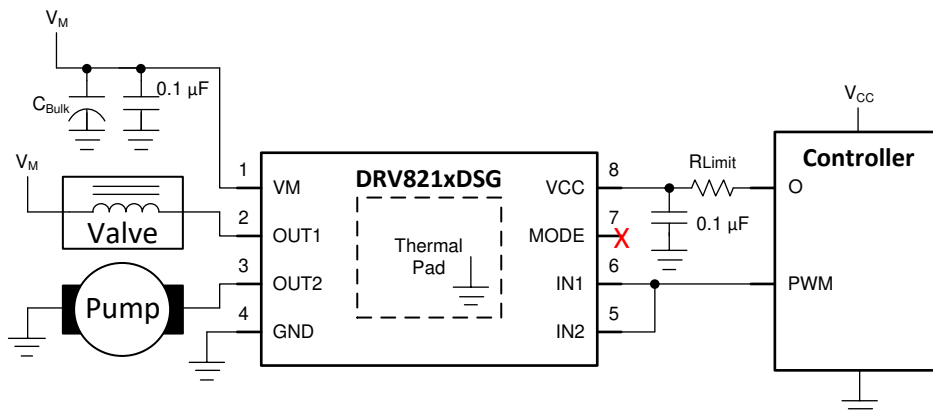

Figure 6-2. Half-bridge mode used as a high-side and low-side driver for two loads
2. Connect a DC motor across OUT1 and GND. If desired, connect an additional DC motor across OUT2 and GND. See Figure 6-2 below for a diagram.